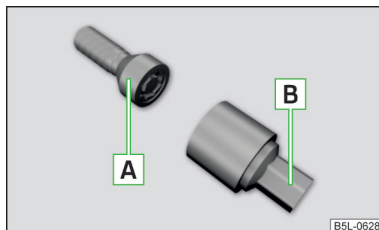

Fig. 232
The anti-theft wheel bolts protect the wheels from theft. The upper section **B** » Fig. 232 must be used to **loosen/tighten** these.
- › Insert the upper section **B** » Fig. 232 on the anti-theft wheel bolt **A** until it stops.
- › Push the wheel wrench onto the wheel bolt to the stop. Use the associated upper section for the anti-theft wheel bolts » Fig. 232 on page 199.